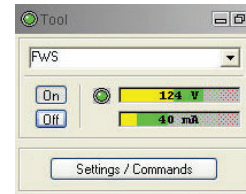
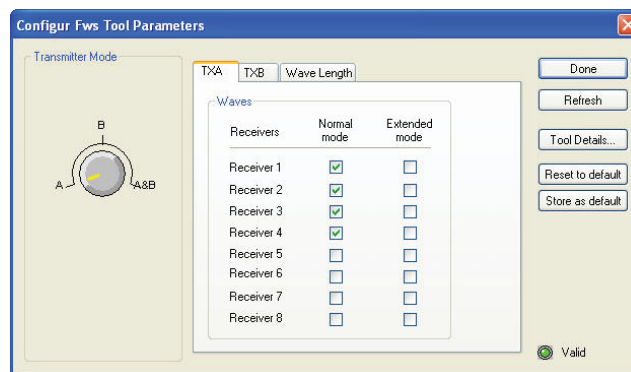

Figure 3-1 Tool panel
Figure 3-6 Receiver Selection per transmitter
2. ☐ Select the relevant QL40 FWS tool from the drop down list (**Figure 3-1**) in the software's **Tool** panel (if your tool is not listed check that your tool configuration file is stored in the designated folder on your computer).
4. ☐ On the **Tool** panel (**Figure 3-1**) click the **Settings / Commands** button to configure your tool. (see chapter 3.4 for details).
The **Configure FWS Tool Parameters** dialog box (**Figure 3-6**) can be accessed by clicking on the **Settings / Command** button on the dashboard's **Tool** panel (**Figure 3-1**).
If your FWS tool is fitted with two transmitters you can choose to operate only one transmitter or both by turning the Transmitter Mode knob (**Figure 3-6**). Turn it to position A or B to operate only a single transmitter or set it to A & B to fire both transmitters in alternance. Transmitter A is the one located closest to the bottom of the tool.